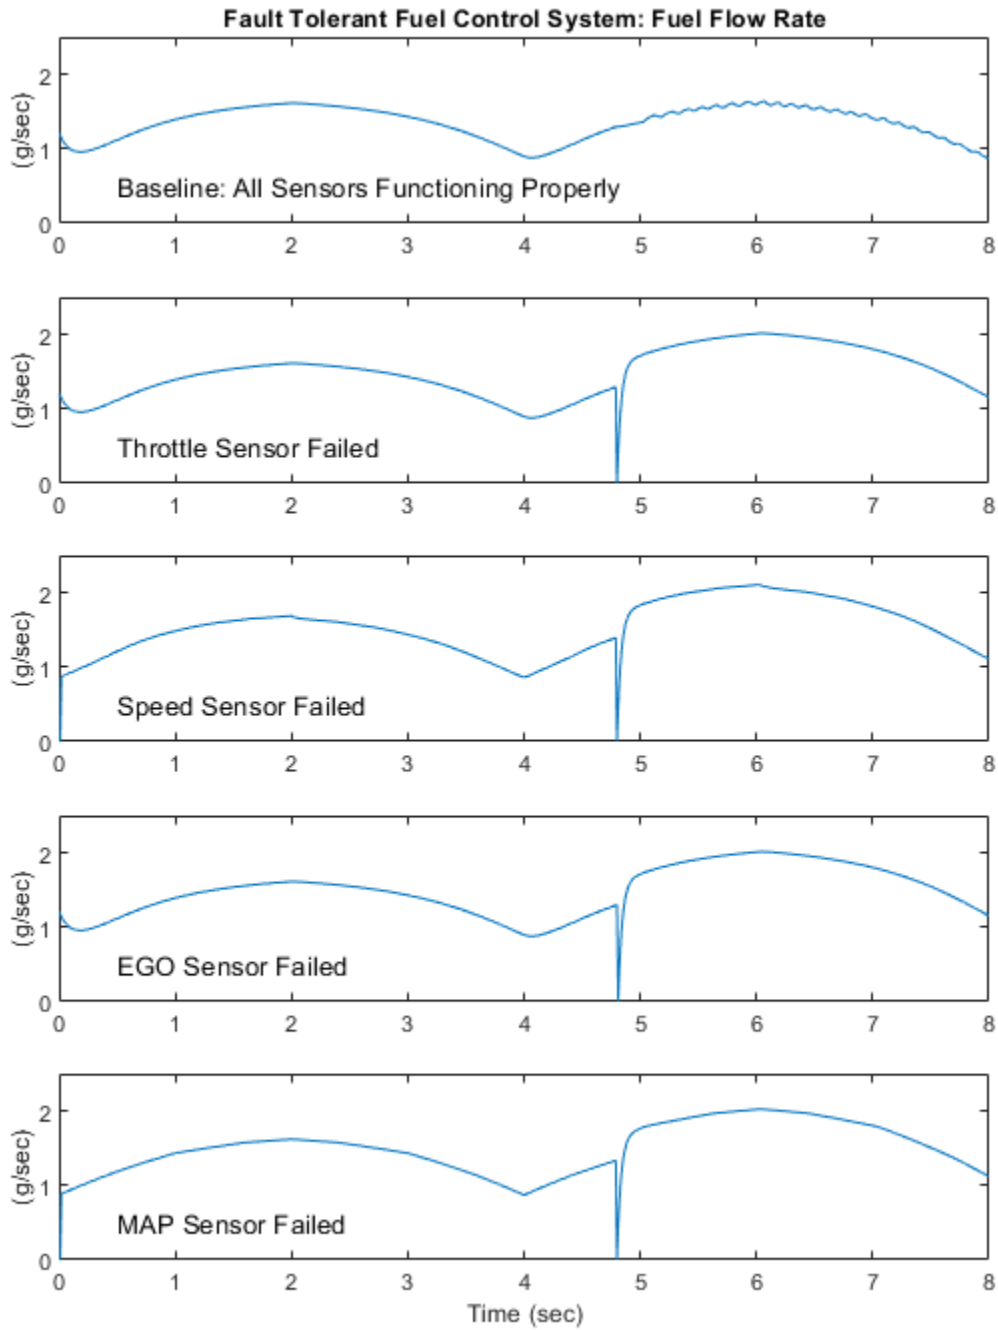
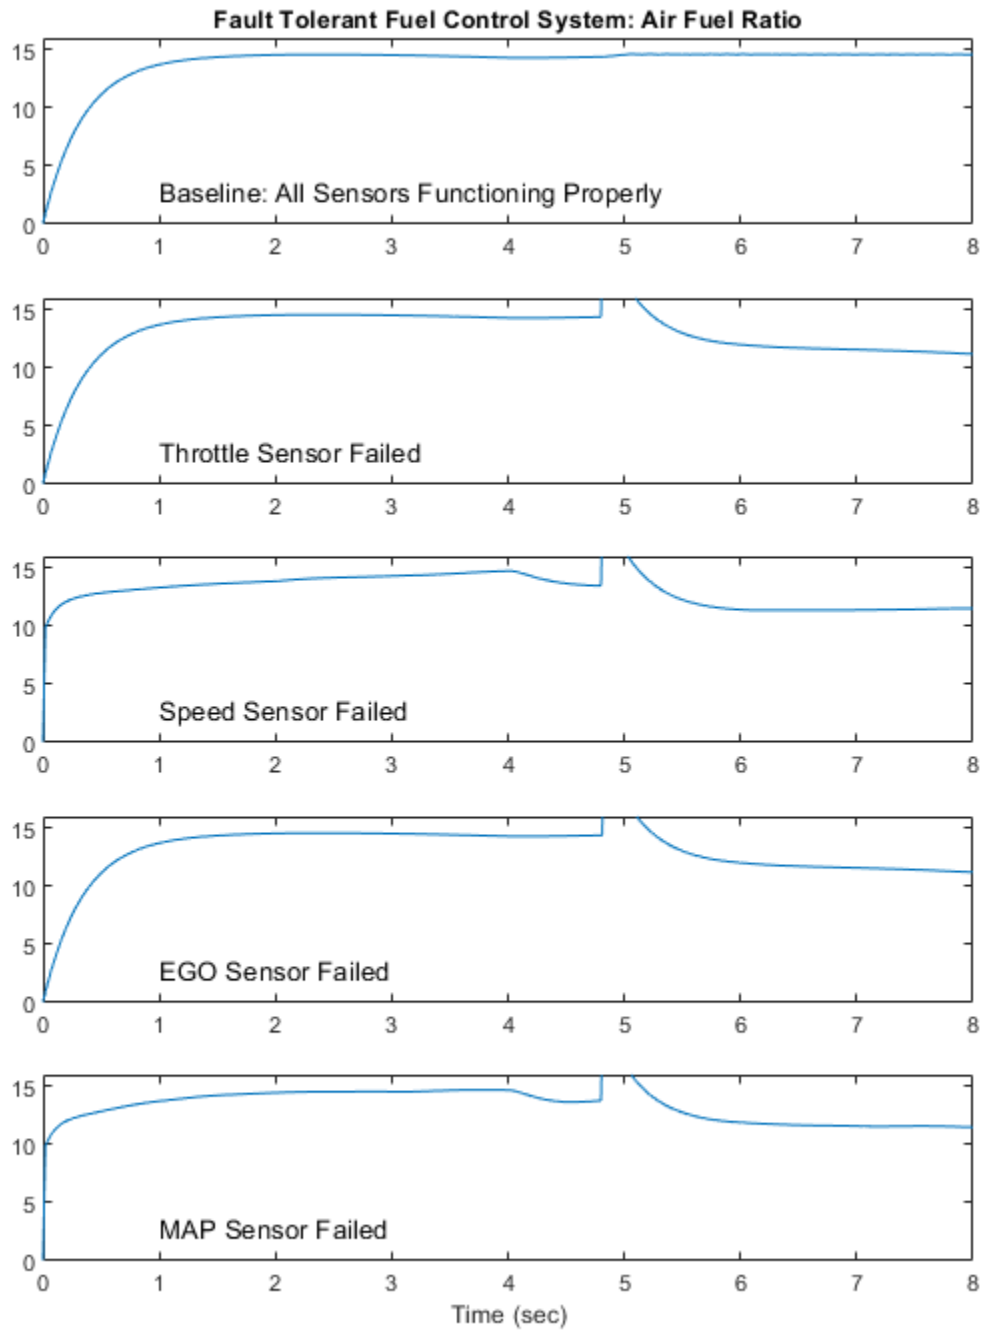
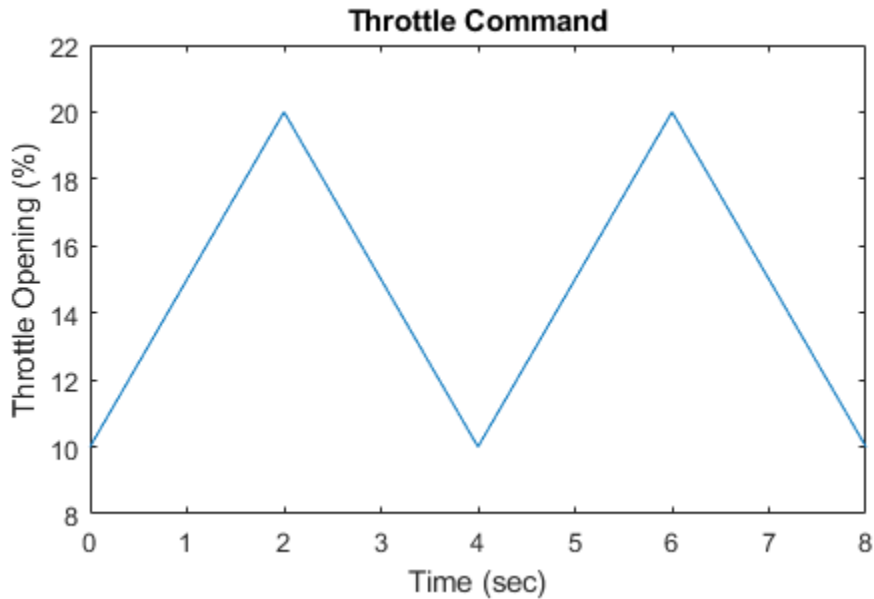

Figure 11: Comparing the fuel flow rate for different sensor failures
Figure 12: Comparing the air-fuel ratio for different sensor failures
Figure 13: Throttle command
Simulation results are shown in Figure 11 and Figure 12. The simulation is run with a throttle input that ramps from 10 to 20 degrees over a period of two seconds, then goes back to 10 degrees over the next two seconds. This cycle repeats continuously while the engine is held at a constant speed so
Figure 11 compares the fuel flow rate under fault-free conditions (baseline) with the rate applied in the presence of a single failure in each sensor individually. In each case note the nonlinear relationship between fuel flow and the triangular throttle command (shown in Figure 13). In the baseline case, the fuel rate is regulated tightly, exhibiting a small ripple due to the switching nature of the EGO sensor's input circuitry. In the other four cases the system operates open loop. The control strategy is proven effective in maintaining the correct fuel profile in the single-failure mode. In each of the fault conditions, the fuel rate is essentially 125% of the baseline flow, fulfilling the design objective of 80% rich.
Figure 12 plots the corresponding air/fuel ratio for each case. The baseline plot shows the effects of closed-loop operation. The mixture ratio is regulated very tightly to the stoichiometric objective of
14.6. The rich mixture ratio is shown in the bottom four plots of Figure 12. Although they are not tightly regulated, as in the closed-loop case, they approximate the objective of air/fuel ($0.8 \times 14.6 = 11.7$).